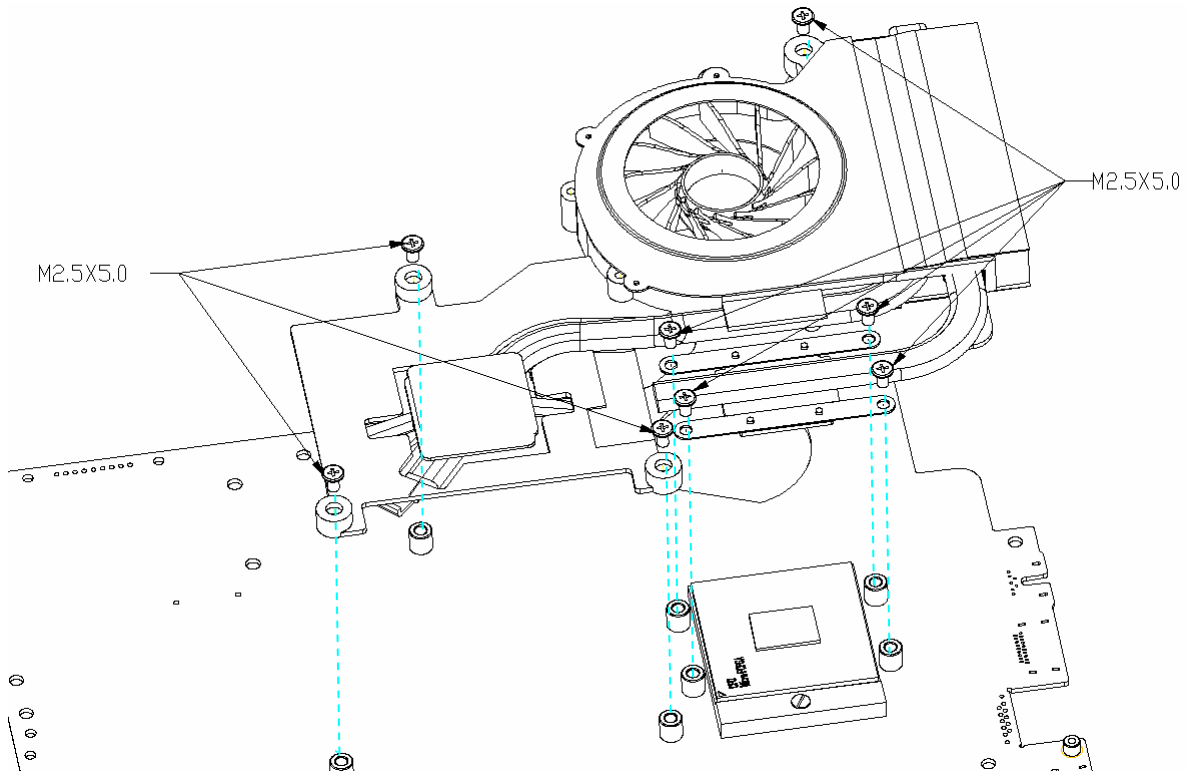

Figure 4-25 Remove the CPU heat sink
1. Disconnect the power cable from the system board (See Figure 4-25)